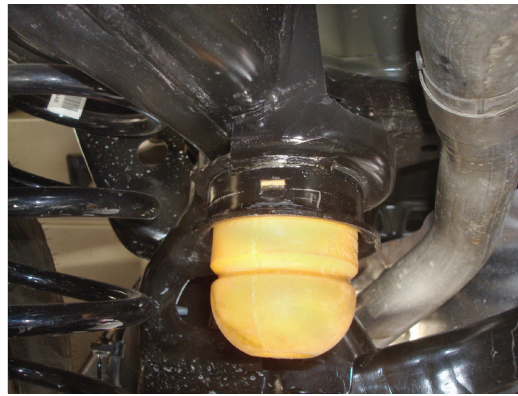

Fig. 3
2. Twist and pull the jounce bumpers to remove them from the mounting cups (Fig. 3).